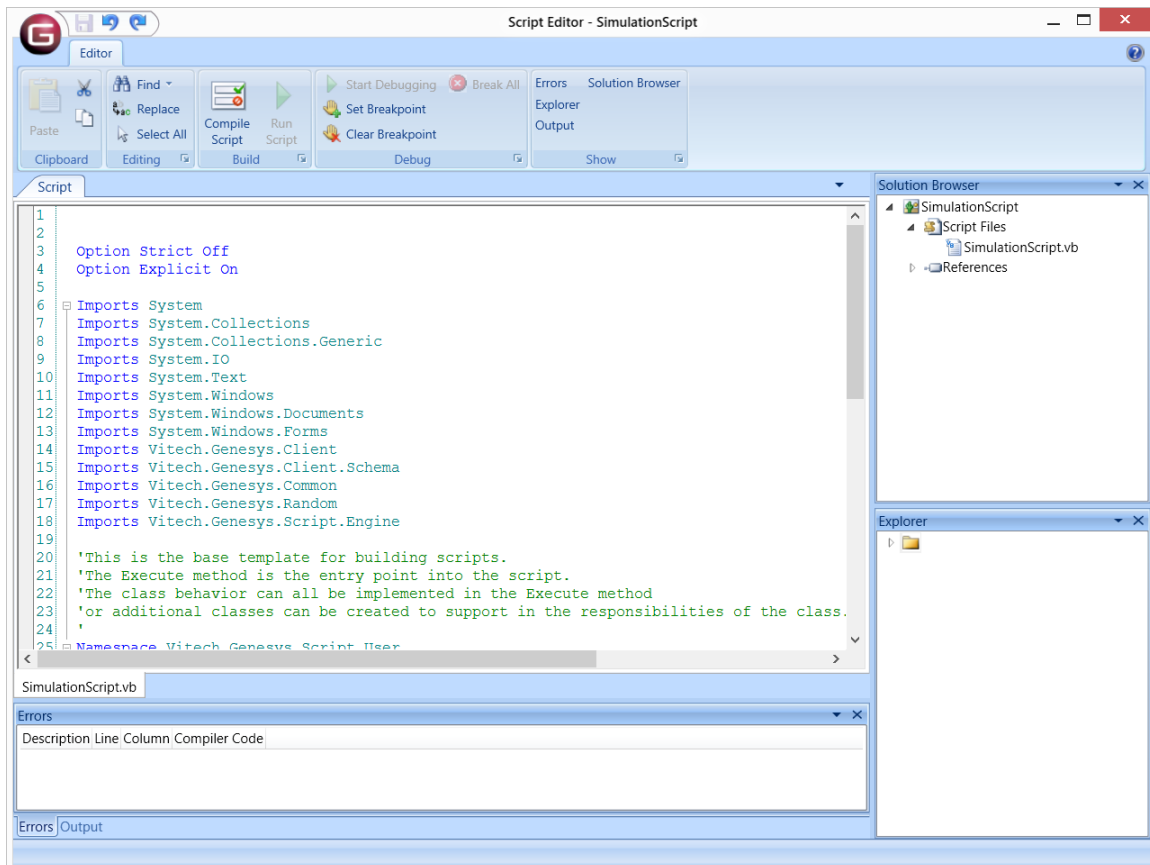

Figure 18 Script Editor Window
- Select the **Script** option to create a Microsoft Visual Basic script to determine the attribute value. The Script Editor Window as shown in Figure 18. GENESYS will execute the script at the start of each execution of the **Function** once the necessary **Resources** have been acquired and triggers processed. More information on scripting is provided in Section 6.
The script is entered/modified by clicking the **Edit** button next to the attribute in the **Properties** window. The **Edit** button opens a Script Editor window (Figure 18) where the script is built using Microsoft Visual Basic and the GENESYS API.